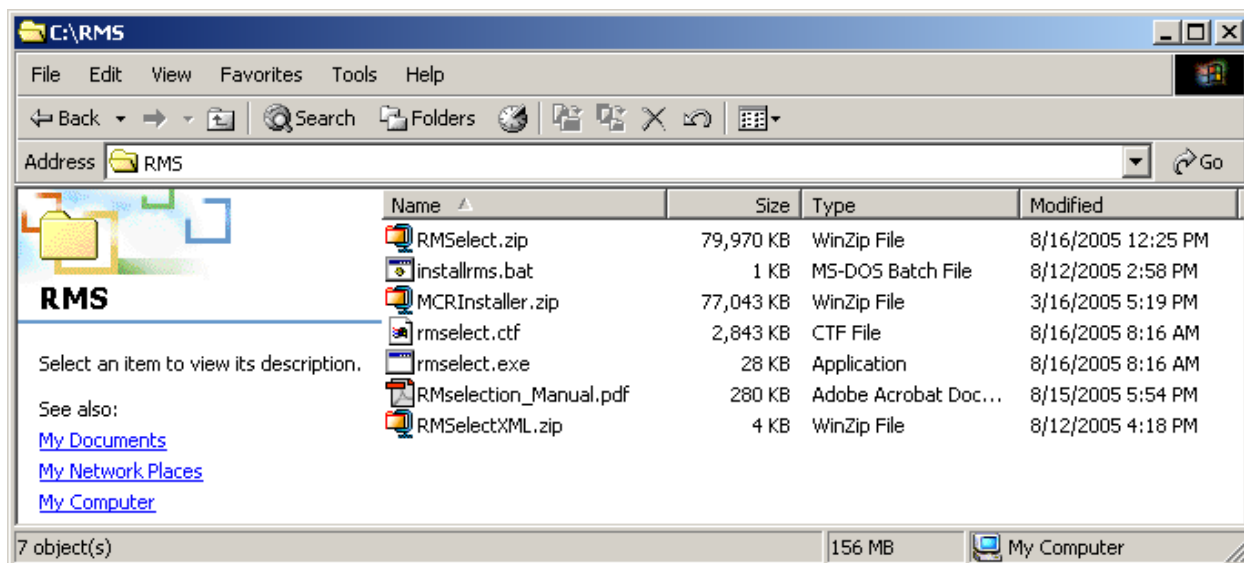

Figure 2.1 C:\RMS Folder after unzipping RMSelect files.
2. Unzip the files in the RMSelect.zip file. After running Zip, the c:\RMS folder should look like the window in Figure 2.1.